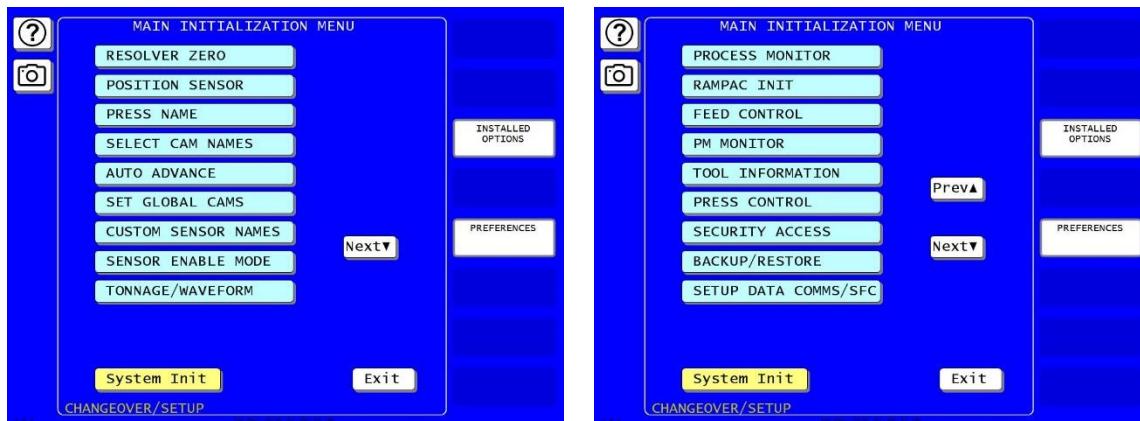

Figure A- 1. “PM Monitor” on SmartPAC PRO Initialization Menu
2. Select “PM Monitor” from the main Initialization menu (see Figure A-1). A screen will appear asking for your password.
1. Select “PM Monitor” from the Main Initialization Menu (see Figure A-1). A screen will appear asking for your PM Monitor password.